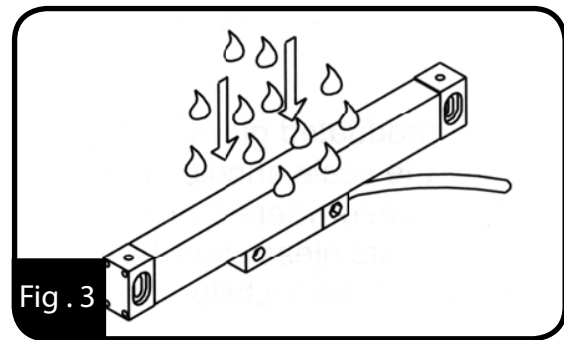

Fig. 3
4. The opening of the scale must **not** be installed as to be directly exposed to swarf, oil, water, dust or other foreign products. (Fig. 3)